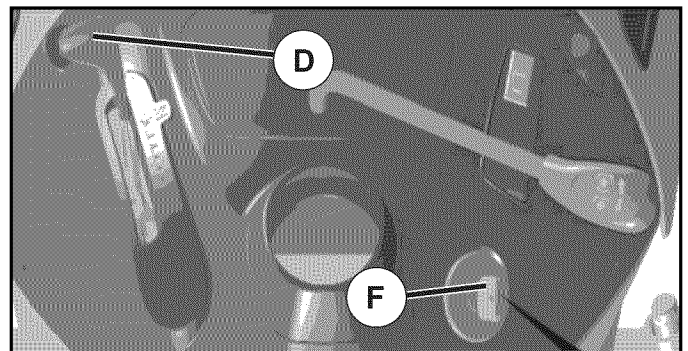

Fig. 13
TO USE THROTTLE CONTROL (D) (See Fig. 13)